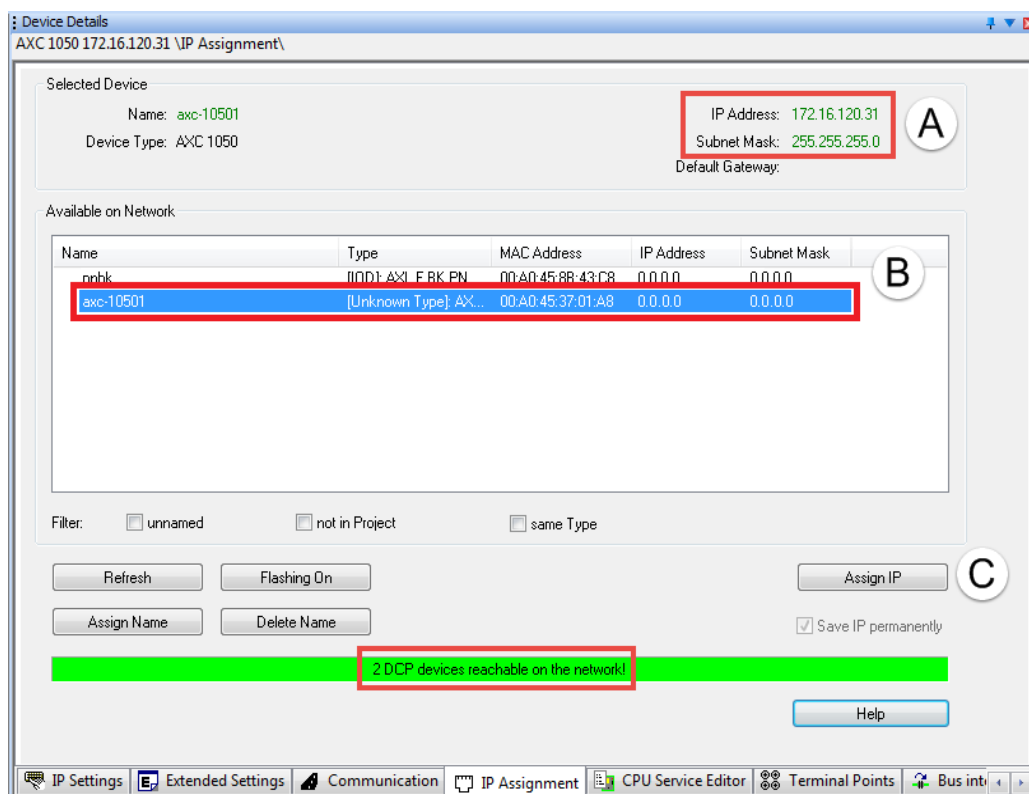

Figure 6-4 "IP Assignment" dialog: DCP devices are accessible in the network
The "IP Settings" tab in the "Device Details" window will display the relevant IP address settings for the controller (see Figure 6-3 on page 50) if you have selected the controller in the "Bus Structure" window. You can assign these settings to the controller via the Discovery and basic Configuration Protocol (DCP) if you select the relevant functions in the "IP Assignment" tab (see Figure 6-4 on page 51).
- Switch to the "IP Assignment" tab (see Figure 6-4).